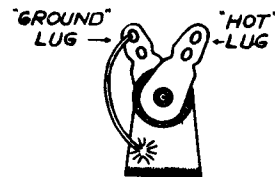

Fig. 10
- (✓) Connect a short length of bare wire to the pilot light ground lug (S) and fasten the other end of the wire to the pilot light mounting frame (S). See Figure 10.
- (✓) Run a wire from N1F (S) to Q3.5R (S). *ok*
- (✓) Run a wire from N3F (S) to Q9.5F (S). *ok*
- (✓) Run a wire from N5F (S) to the red banana jack M insert lug (S). *ok*
- (✓) Run a wire from N7R (NS) to R3 (S). *ok*
- (✓) Run a wire from N9R (S) to T3 (S). *ok*
- (✓) Run a wire from N10F (S) to Q9R (NS). *ok*
- (✓) Run a short piece of stiff bare wire from N11F (S) to L1 (S). *ok*
- (✓) Run a wire from R1 (NS) to T2 (S). *ok*
- (✓) Run a short piece of stiff bare wire from (use spaghetti if necessary) L2 (NS) to the black banana jack K insert lug (S). *ok*
- (✓) Connect a 4" wire length to Q3F (NS) and leave the other end free. *ok*